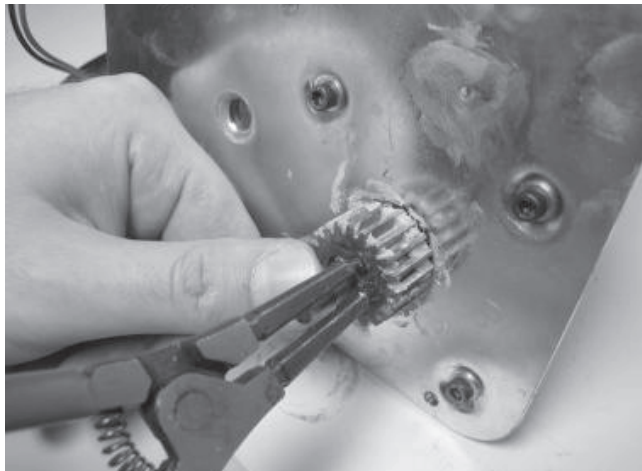

Figure 21.
- 4.23 Using retaining ring pliers, replace the retaining ring, see Figure 21.